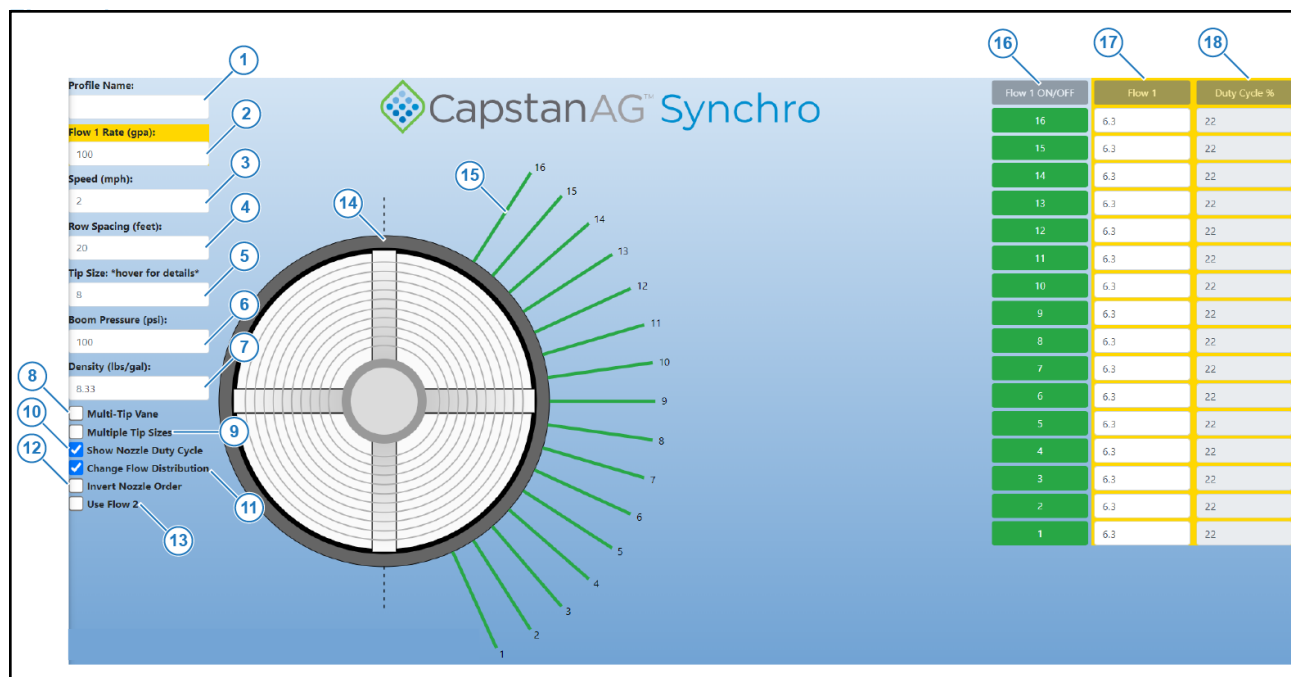

Figure 15: CapstanAG Synchro Website
1. Increase the value in the speed input box (Figure 15, Item 3) until any of the values in the Duty Cycle % column (Figure 15, Item 18) reach 90.
3. Decrease the speed input box (Figure 15, Item 3) until any of the values in the Duty Cycle % column (Figure 15, Item 18) reach 10.